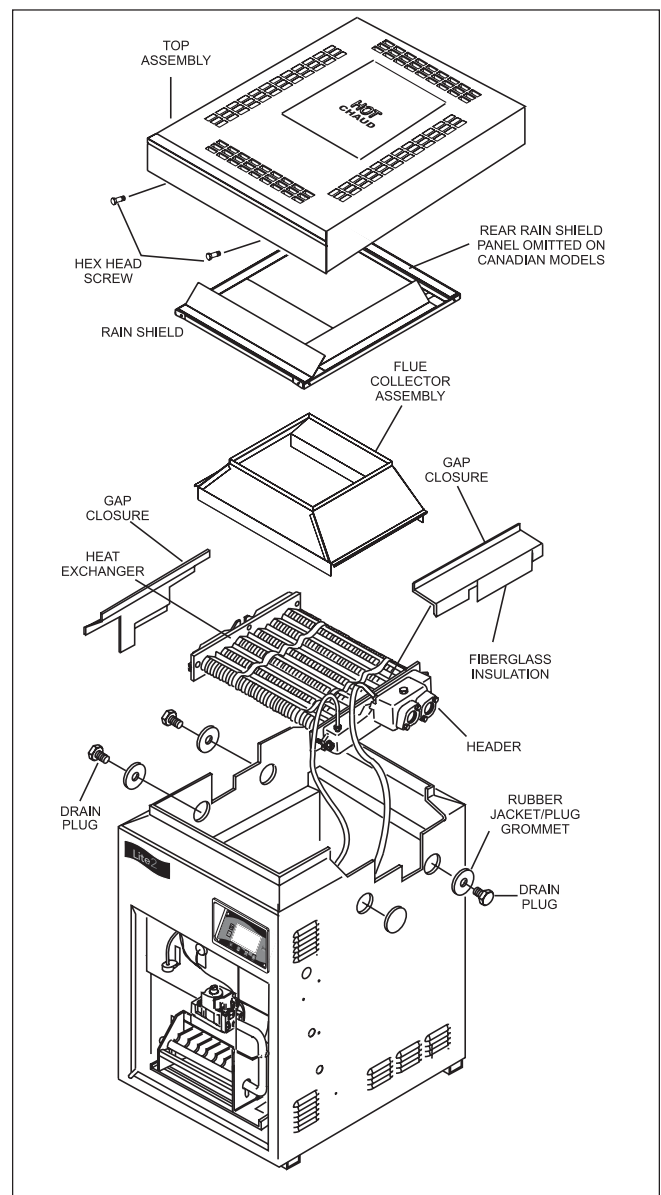

Figure 8. Heat exchanger reversal
2. Remove all 8 hex-head screws fastening the top and lift the top assembly straight up (see Figure 8).
6. Remove the three rubber jacket/plug grommets and drain plugs (see Figure 8). One is located under the water connections on the right side. The other two are on the left side of the heater.